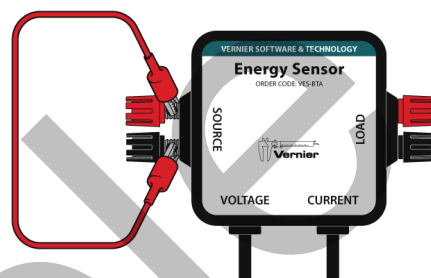

Figure 4
- a. Connect the Energy Sensor Source terminals to each other with a wire lead, as shown in Figure 4.